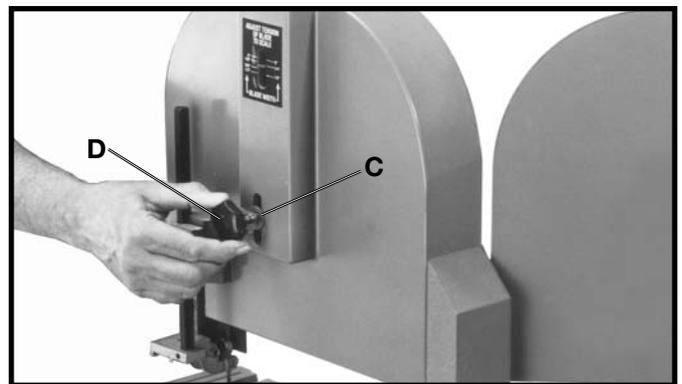

Fig. 19
3. If the blade is not riding on the center of the wheel, loosen wing nut (C) Fig. 19, and while turning the upper wheel by hand, turn tracking adjusting knob (D) slightly clockwise or counterclockwise. You will notice that the saw blade will move to the right or left on the wheel.
4. When the blade is tracking properly, tighten wing nut (C) Fig. 19.